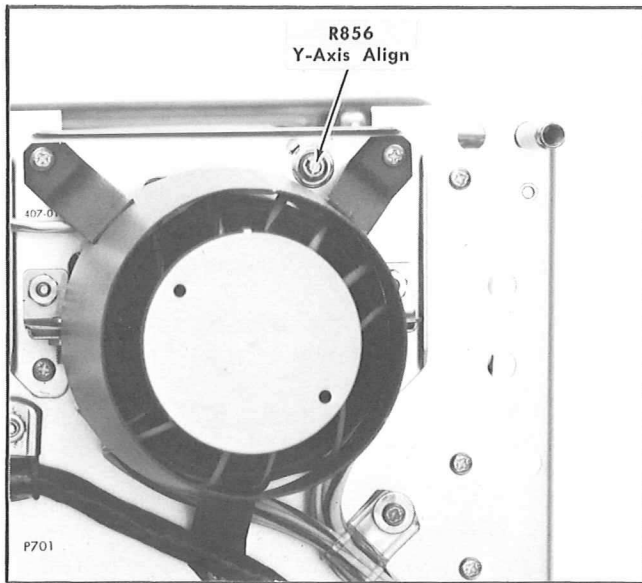

Fig. 5-10. Location of Y Axis Align adjustment (rear panel).
f. ADJUST—Y Axis Align adjustment R856 (see Fig. 5-10) so the markers are parallel to the center vertical line.